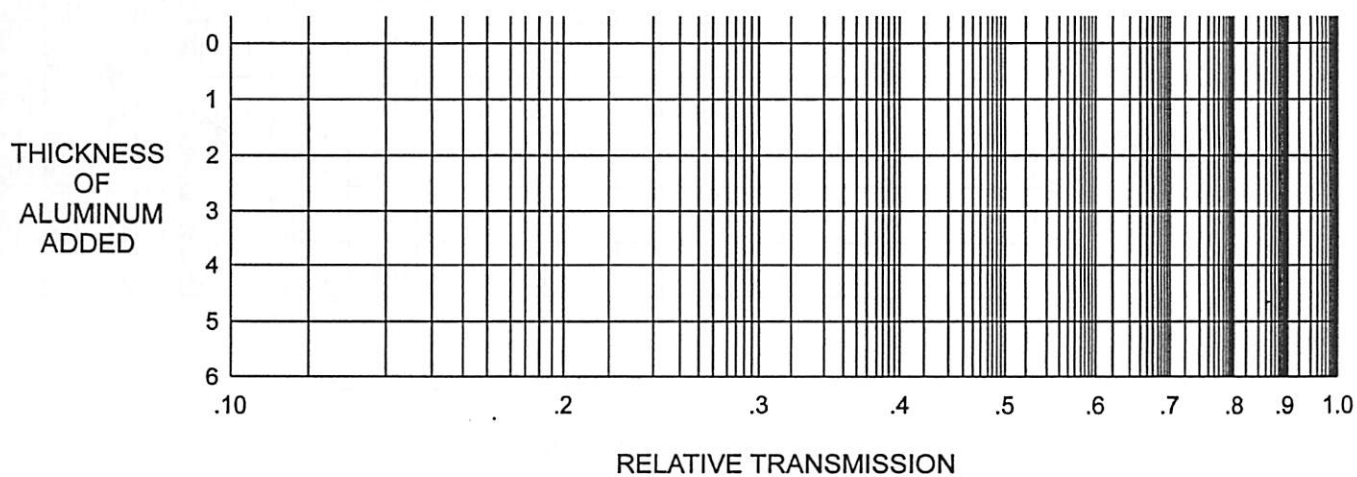

Figure 2: HVL plot 100 kVp
11. Repeat steps 4 to 10: 3 point generators, 100 kV, 200 mA, 50 ms, large focus. For 2 point generators use 100 kV, 200 mA if this can be set, and 10 mAs. Use table 11 to record the values and figure 2 to plot the results